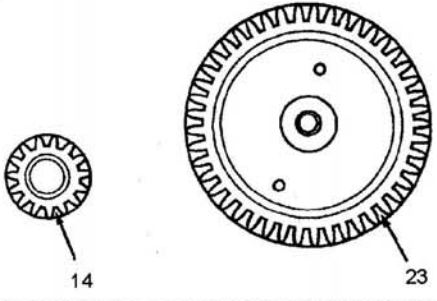

Figure 2
(2) Soft or sticky distributor and rotor gears (14, 23) indicate moisture contamination and require component replacement (reference Slick Maintenance and Overhaul Manual L-1037). See Figure 2.
- (12) Harness Cap "O" Ring (not shown in Figure 2) - Check "O" ring M3184 for wear and replace as necessary.